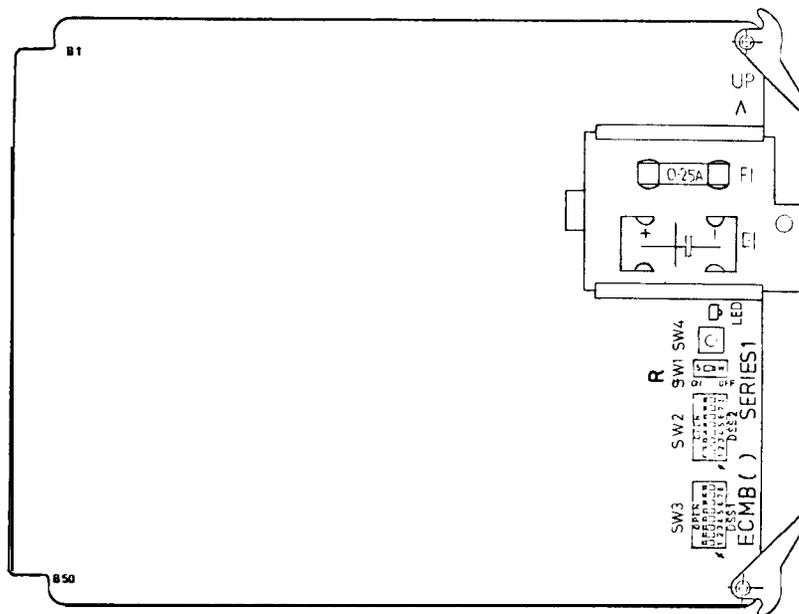

FIGURE 59 ECMB - A,B,D FUSE, BATTERY AND SWITCH LOCATIONS
Refer to figure 59. The fuse F1 is a 250mA fuse, which protects the battery from possible damage due to an accidental short circuit. Be sure that the fuse is not blown and then install the attached battery. Ensure that the battery is connected with the correct polarity. A LED is provided on the board to light if the battery voltage is low.
The SW1 switch (figure 59) is used to clear the RAM memory and initialise the data base when power is applied for the first time. Check that the SW1 switch is in the OFF(M) position before powering up the system for the first time. After power is applied to the system, set the switch to the ON(S) side without removing the ECMB-() board or turning off the power. The initial values of the system data are given in section 2.7.
Refer to figure 59 for the location of switches.